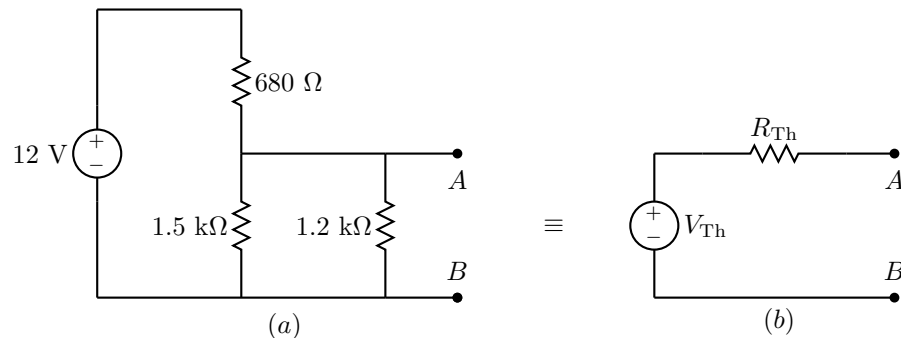

Figure 2: (a) Original circuit, (b) Thévenin Equivalent circuit
Thévenin theorem is an important concept for electrical circuit analysis. The theorem states that any two-terminal network of resistors and voltage sources can be represented by just one resistor  $R_{Th}$  and a voltage source  $V_{Th}$ . Figure 2 illustrates the scenario of the Thévenin equivalent circuit.
We can see that the circuit diagram shown in Figure 2(a) can be transformed into a simple circuit shown in Figure 2(b). According to Thévenin theorem, these two circuits have an equivalent effect at terminals A and B. For instance, the terminal voltage across A and B will be the same for both circuits.
- i. **Circuit setup for Figure 2(a).** Set up the circuit according to the circuit diagram in Figure 2(a) on the breadboard.
- iv. **Measurement of  $R_{Th}$ .** Short-circuit the DC voltage source in Figure 2(a) and measure the resistance between terminals A and B. **The measured resistance is  $R_{Th}$ .** Record the value in Table 4. According to Thévenin theorem, the Thévenin equivalent resistor can be obtained by measuring the terminal resistance of a network while short-circuiting the voltage source or open-circuiting the current source inside.
- v. **Calculation of  $R_{Th}$ .** Short-circuit the DC voltage source in Figure 2(a). **Calculate the resistance between terminals A and B, which is the calculated  $R_{Th}$ .** Record the value in Table 4.
- vi. **Obtain the  $I_{1k\Omega}$  in original circuit.** Connect a  $1\text{ k}\Omega$  resistor to terminals A and B in Figure 2(a). Use a multimeter to measure the current  $I_{1k\Omega}$  through this  $1\text{ k}\Omega$  resistor. Record the value in Table 5.
- vii. **Obtain the  $I_{1k\Omega}$  in Thévenin equivalent circuit.** Set up the circuit according to the circuit diagram in Figure 2(b) on the breadboard. Use the calculated  $V_{Th}$  and  $R_{Th}$  for the setup. Connect a  $1\text{ k}\Omega$  resistor to terminals A and B. Use a multimeter to measure the current  $I_{1k\Omega}$ . Record the value in Table 5.
- ii. Based on the comparison of the current through the 1 k $\Omega$  resistor in both configurations, is it sensible to use the circuit in Figure 2(b) to replace the one in Figure 2(a) if we would like to study any linear network connected between terminals A and B? State your reason(s).
You need to use PSpice to simulate both circuit setup in Figure 2 and verify your results. Once again, print and glue the output from PSpice onto the box below. Please print, cut and glue the output from PSpice simulation results onto the box below.